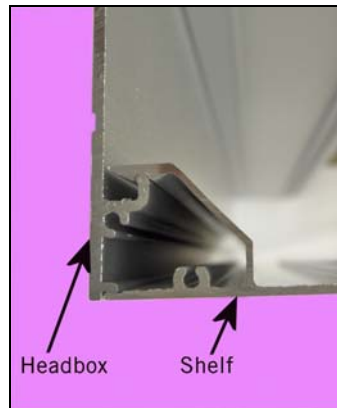

Figure 18 Shelf on Headbox
- Rotate the shelf up and snap the lip of the shelf over the shelf hook on the headbox (Figure 18).